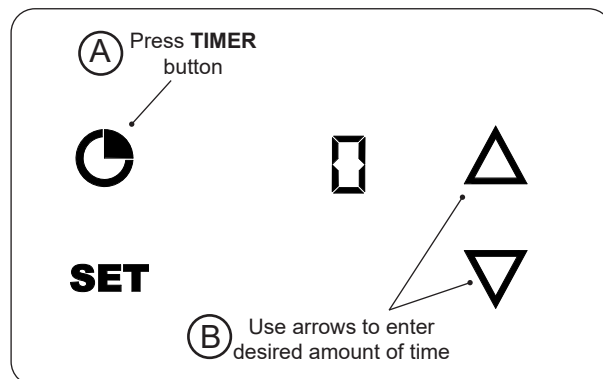

Fig. 37-1 Set timer
1. With the thermometer/thermostat **on**, press the **TIMER** button once (Fig. 37-1, A). A zero will display indicating that no timer is set.
2. Press the **UP** or **DOWN** arrows to enter the desired amount of time (Fig. 37-1, B).